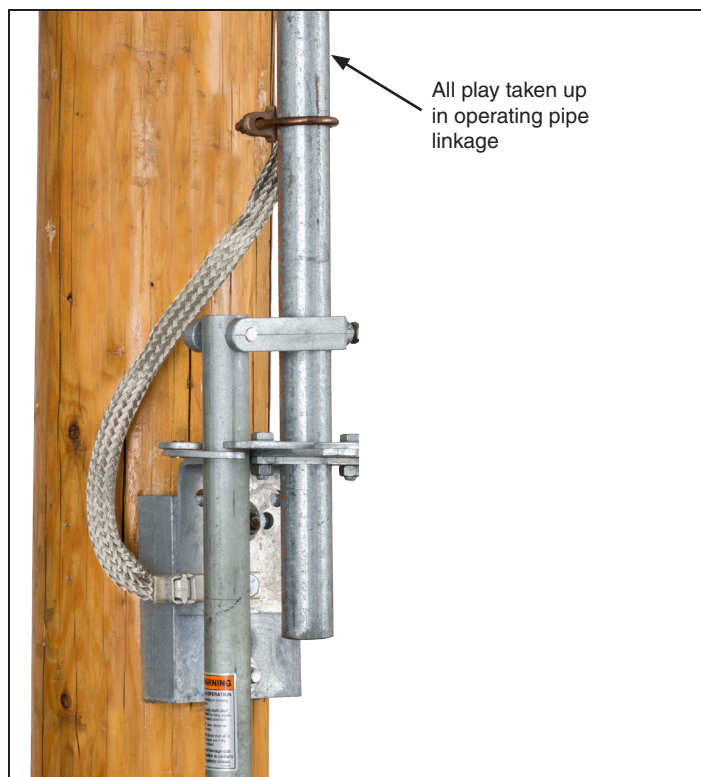

Figure 20. Verify the wind up.
- (d) Push the handle into the closed stop position. It should take significant force to secure the handle into the closed stop. The handle will be firmly pressed against the left side of the closed stop plate. This pressure will hold the torque in the pipe, creating the desired windup. Move the handle into the **Open** position to verify it fits into the open stop plate. See Figure 20 on page 18.